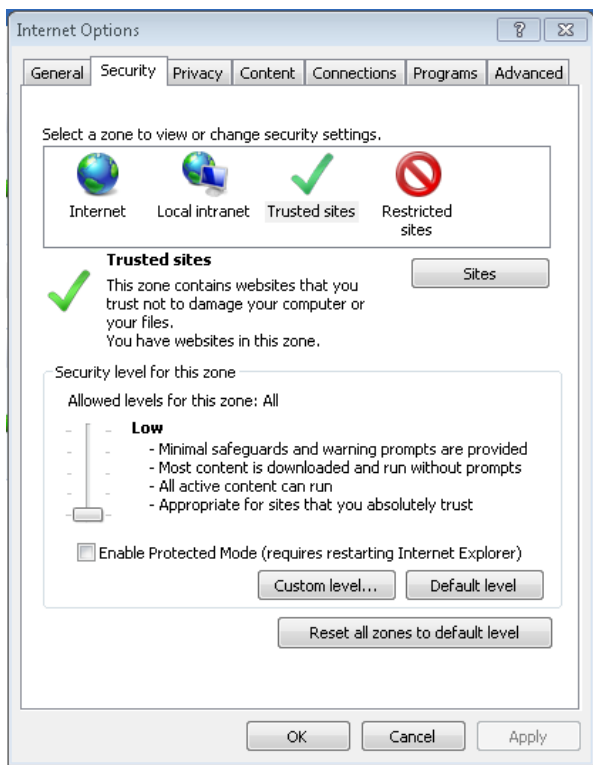
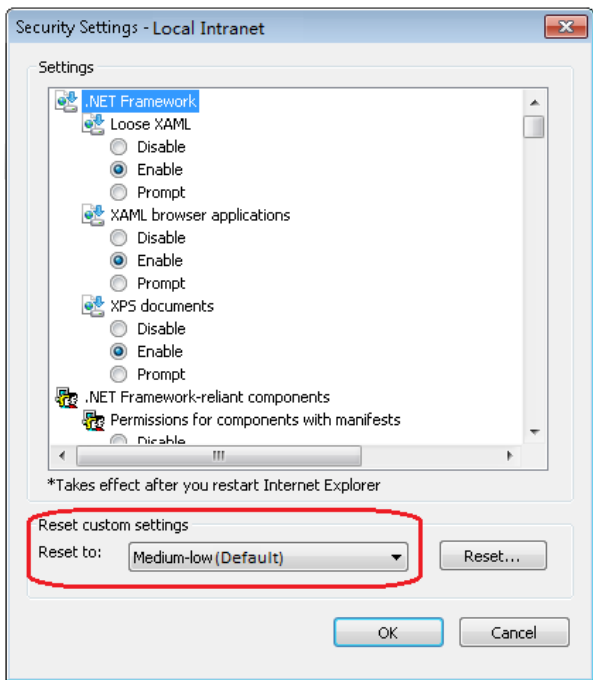

Figure 3-4 Security setting 1
Figure 3-5 Security setting 2
- Double-click the icon of IE to run the software, click the menus of **Tools -> Internet Options** and then choose the **Security** tab to pop up the window shown in Figure 3-4.
2. In the window shown in Figure 3-4, choose **Local intranet** and click the **Custom level** button to pop up the window shown in Figure 3-5.
3. In the window shown in Figure 3-5, set 'Medium-low' for the security level. Click the **Reset** button to finish Reset custom settings, at last, click **OK**.